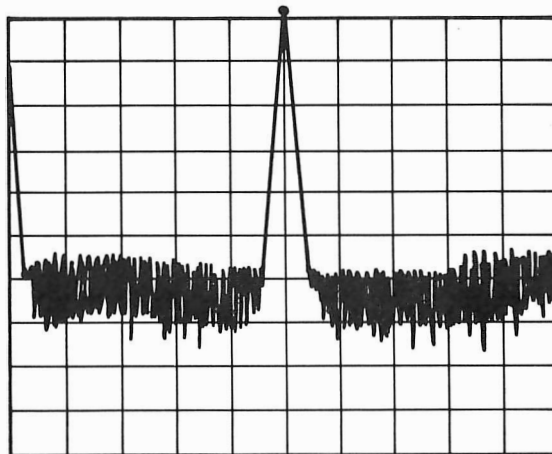

Figure 5-21. YO Loop Gain at A48J1
13. Press Sweep Generator 8340A [**CW**] then adjust rotary knob to set a frequency that will produce a center frequency readout on the Spectrum Analyzer of 25.0 MHz. (See Figure 5-21.) Turn off [**SIGNAL TRACK**] on Spectrum Analyzer.